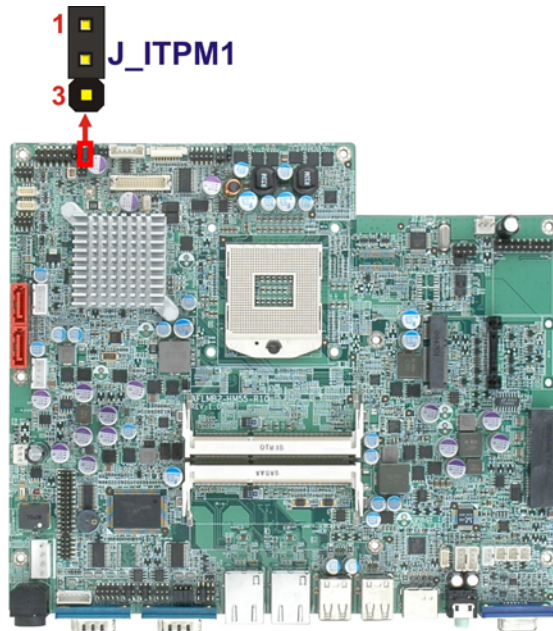

Figure 3-14: iTPM Jumper Location
- Jumper Location:** See **Figure 3-14**
The iTPM jumper location is shown in **Figure 3-14**.